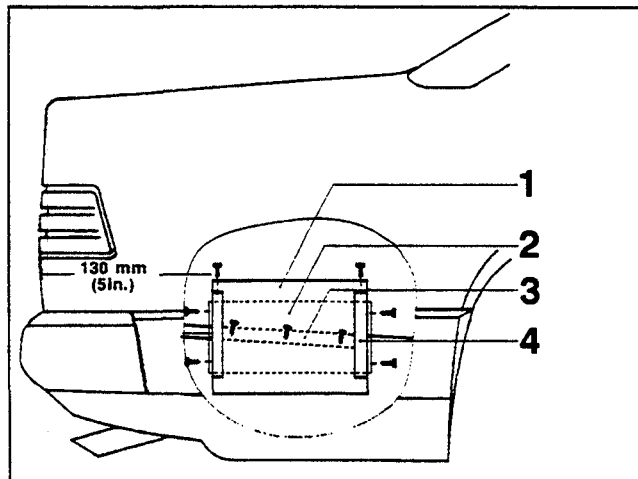

Figure 2
4. Place CD changer bracket B (3) alongside the outer edge of the spare wheel compartment. The rear edge of the bracket should be 130 mm (5 in.) from the rear wall of the trunk (Figure 2).
7. Assemble brackets (2 and 3) for later installation on the CD changer (1) using three 4 x 6 mm bolts (Figure 2).
1. Carefully lift and slide the CD changer with installed side brackets (4) into the left and right side channels of the bracket assembly (3 and 4). Ensure that the CD changer is properly seated in the support bracket (Figure 2).